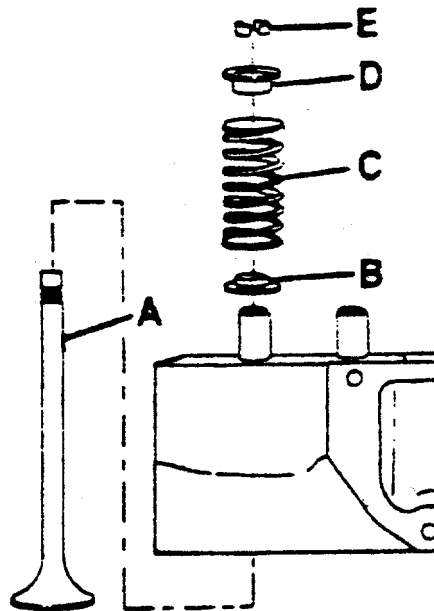

FIGURE 4-19. Valve and Spring Installation Order.
- b. Install the valves in their original positions in the cylinder head and the valve springs in the cylinder head as follows (refer to Figure 4-19):
- (1) Engine Poppet Valve - A
- (2) Helical Compression Spring Seat - B
- (3) Helical Compression - C
- (4) Helical Compression Spring Seat - D
- (5) Valve Spring Retainer Lock (Collets) - E